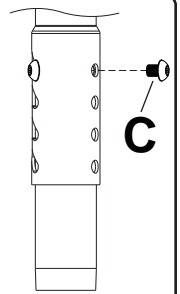

fig 2.2
Insert second screw (C) through hole opposite of hook slot as shown in figure 2.2. Tighten both screws (C) using allen wrench (D).